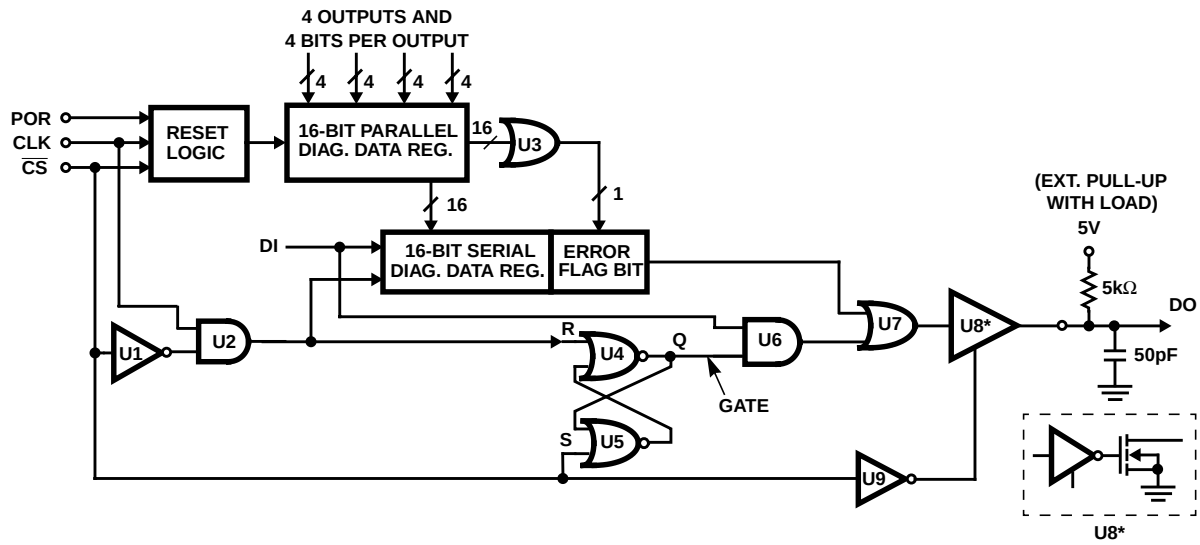
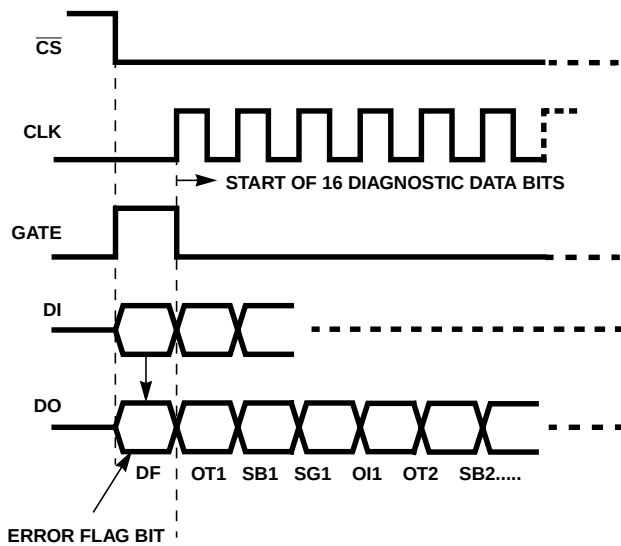

FIGURE 1. DIAGNOSTIC INTERFACE LOGIC
FIGURE 2. DATA AND CLOCK TIMING
Referring to Figure 1 and Figure 2, there are two sources that generate an OR'ed Fault Flag at DO when $\overline{CS}$ goes low. The two fault data sources are (1) the on-chip fault detection and (2) the off-chip DI input from front end ICs in the cascade. The fault data bit, labeled DF (Data Fault) in Figure 2, contains the OR'ed inputs from both sources. The DF bit is not part of the 16-bit serial diagnostic data sequence. In cascaded operation, the DI input for the first of the selected chips should be tied low. And, in single IC operation (no cascade), the DI input should also be tied low. In cascaded operation, the Error Flags are cascaded via the DI inputs.
The last IC in the string ORs its own 16 fault bits in the parallel diagnostic register data and sends this data bit to an Error Flag register. The Error Flag register outputs the presence of a fault in one or more bits of the parallel diagnostic data register. As shown in Figure 2, the Error Flag is the first bit in front of the serial register and is input to OR Gate, U7 with the DI input. The DI input passes through AND Gate, U6 when the GATE signal is high and output via the amplifier U8 to DO. The output amplifier U8 is active only while $\overline{CS}$ is low. When $\overline{CS}$ is low, the RS Flip-Flop drives the GATE output high. When the GATE is high, the cascaded DF bits are jammed from DI to DO. All Error Flags in the cascade are cleared (by the CLK input) when the serial diagnostic data is clocked out of DO.
Technically, the HIP0080 and HIP0081 fault data has only 16 bits. Except for the Error Flag, DF data bit shown in Figure 2, the format matches that of a normal CPOL = 0, CPHA = 1 SPI protocol (polarities, phase, etc). The DF bit from the DO output is active only until the clock starts. The best way to take advantage of it (if desired) is to connect the DO to the SPI bus, and also to a port pin, or other logic input. After CS goes low and before the SPI clocks starts, the DF bit can be read. If it is a zero, then the rest of the data does not have to be read. (The data will be all 0's = no errors). If the DF bit = 1, then the data must be read to find out which bit(s) is set.